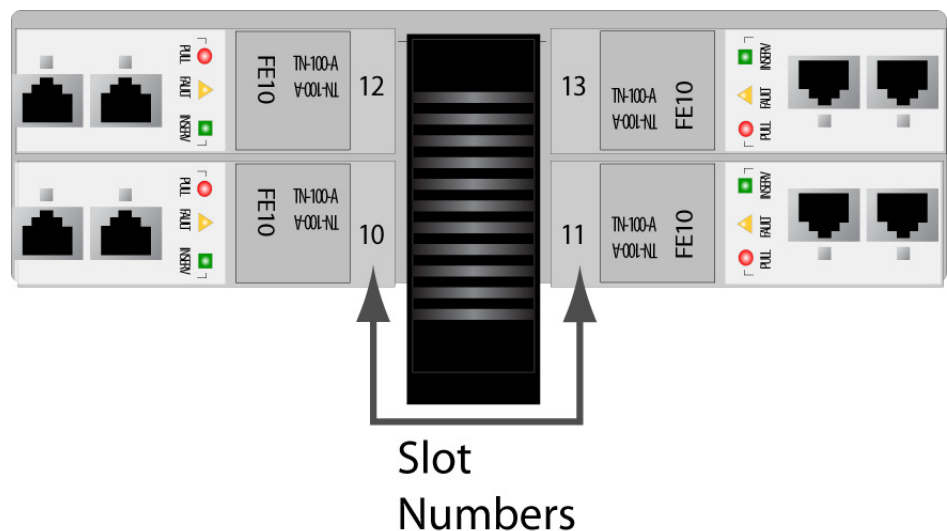

Figure 9. For 9810 SM Cards, Slot Numbering
2. For insertion into slots 4, 6, 10, or 12, hold the card securely with component side down. For insertion into slots 5, 7, 11, or 13, hold the card by its latches with component side up. (For any slot, the latch/label will go on the inside of the chassis). Refer to Figure 9.